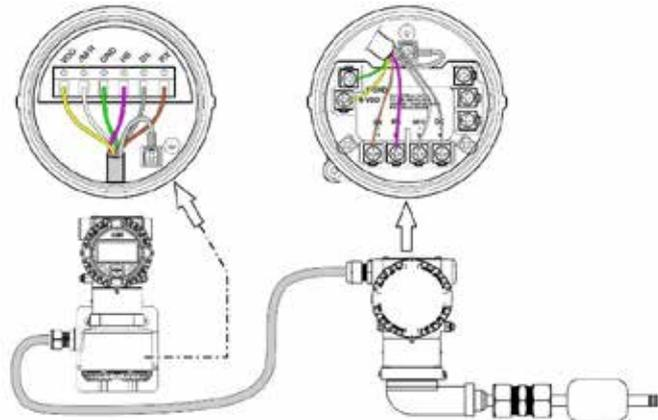

Figure 3 Remote version: connecting the signal cable
- 6 Connect the wires to the corresponding terminals (refer figure 3).